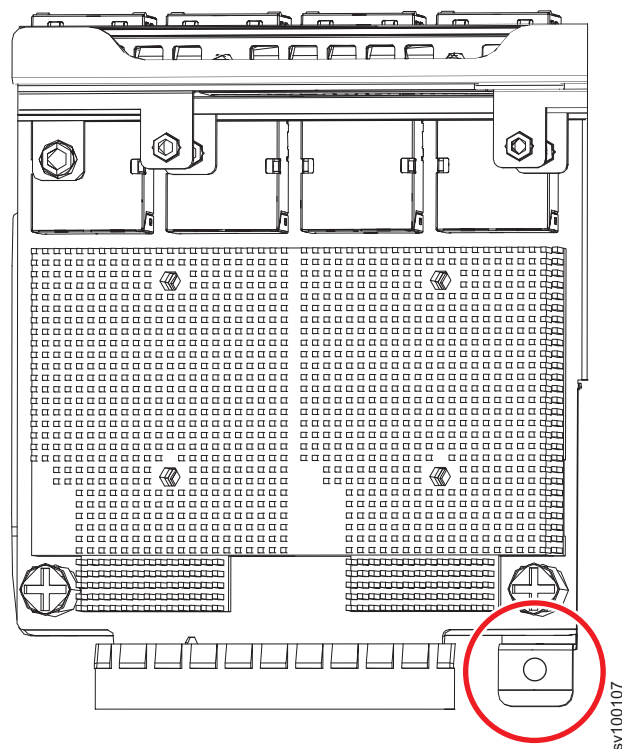

Figure 214. Location of the screw on the 2145-SV1 Ethernet chassis
13. Replace the screw (shown in Figure 214 on page 264) to secure the Ethernet edge board to the chassis.